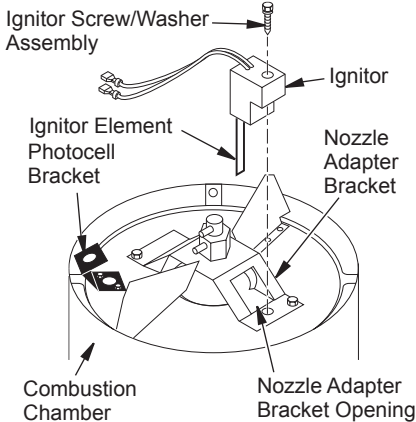
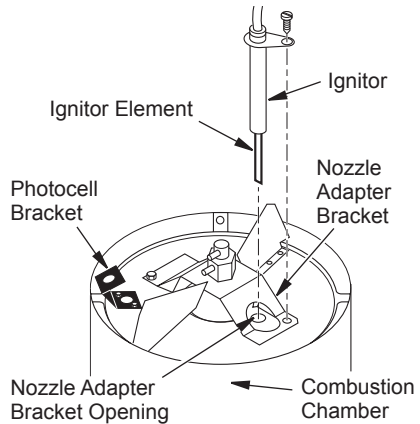

Figure 15 - Ignitor HA1000 Replacement
Figure 16 - Ignitor HA1100 Replacement
- Remove combustion chamber. Stand combustion chamber on end with nozzle adapter bracket on top (see Figure 15, page 12).
- Carefully guide ignitor into opening in nozzle adapter bracket. Do not strike ignitor element. Attach ignitor to nozzle adapter bracket with screw using a 1/4" nut driver for models using ignitor HA1000 (see Figure 15) or 5/16" nut driver for models using HA1100 ignitor (see Figure 16). Torque .90 to 1.69 N-m (8 to 15 in-lbs) Do not over torque.